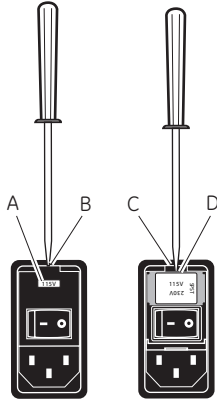

Figure 5-3. Opening the fuse box of the Image eraser.
- 2 Note the voltage (115 V or 230 V) showing in the fuse window (Fig 5-3 A).
- 3 Place the end of a small flathead screwdriver in the small groove (Fig 5-3 B) above the fuse window and pry to open the fuse box.
- 4 Place the screwdriver in the groove (Fig 5-3 C) on the upper edge of the fuse holder (Fig 5-3 D) and pry out the fuse holder. When the holder is loose, pull it out of the fuse box.